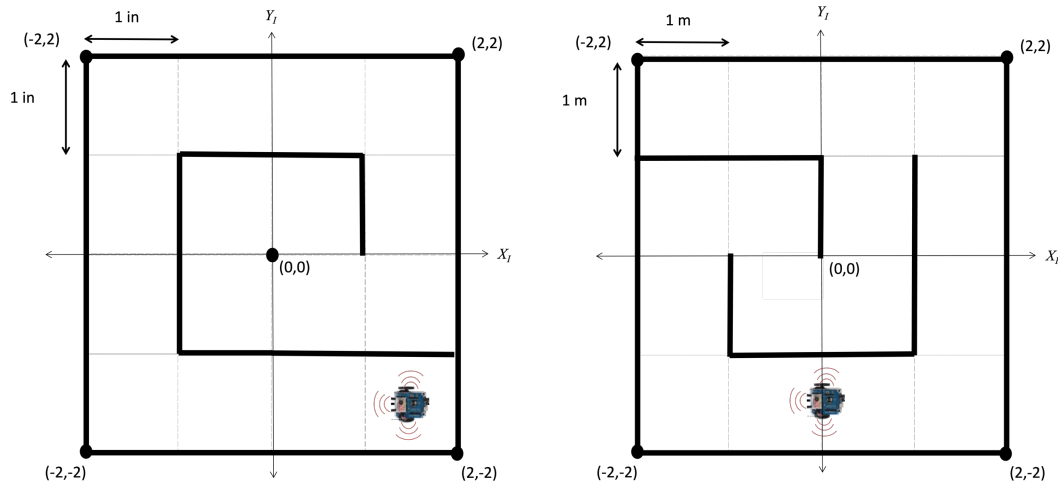

Figure 3. Robot mazes for wall following task.
- Two different world mazes should be tested using the same robot controller, as shown in Figure 3.